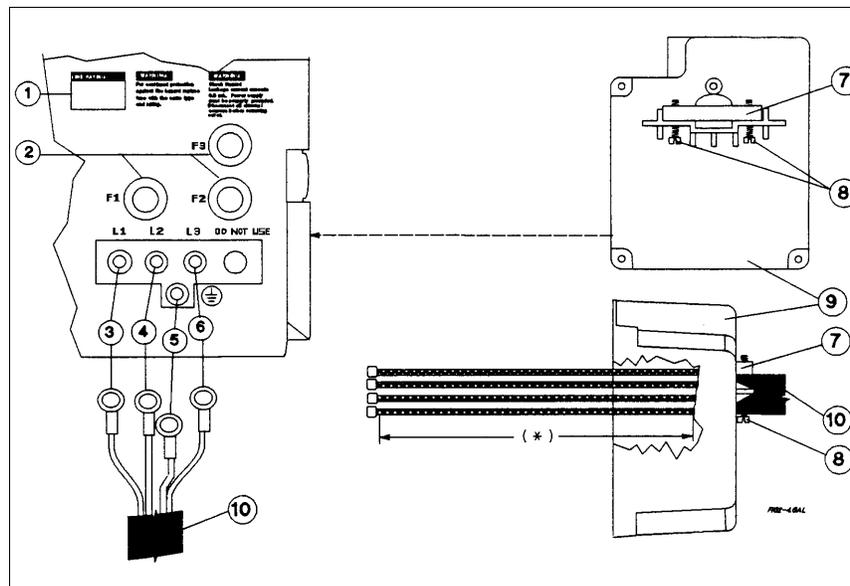

Figure 2-5. Connecting the Series 668xA Power Cord
See Figure 2-5 and proceed as follows:
1. Check the line fuses (2), Figure 2-5) as follows:
- a. Examine the **FUSES** label (1) on the rear panel.
- b. Unscrew the line fuse caps (2) from the rear panel and verify that all fuses are as specified on the label. Replace the fuses.
2. Open the line clamp (7) and insert the line cord (10) through the opening.
3. Position the line cord so that the clamp is near the end of the outside insulating sheath. Tighten the screws (8) securing the clamp.